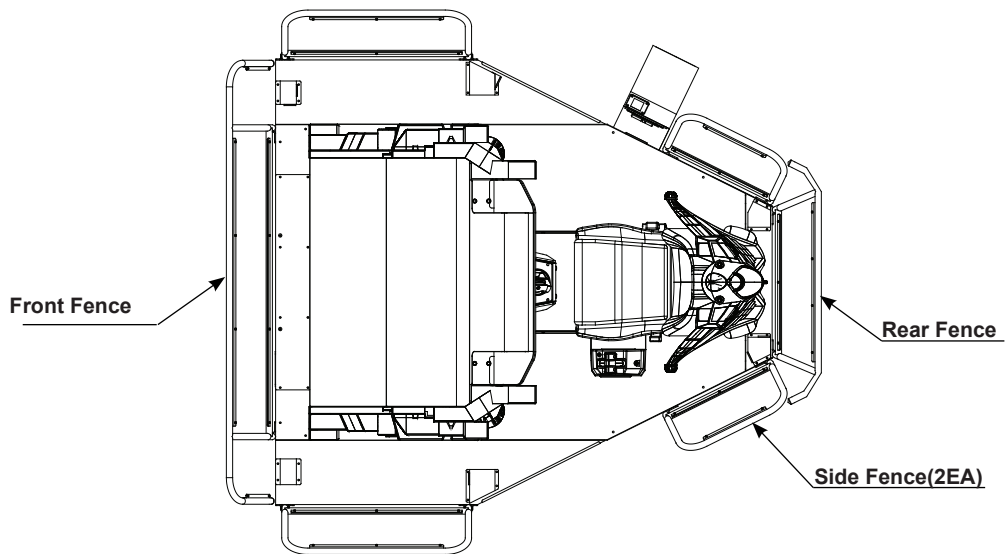

FIG. 6-3a
- 1 FIG. 6-3a shows the locations of the fences. Fences can be installed in the order of : front, rear, side(2).